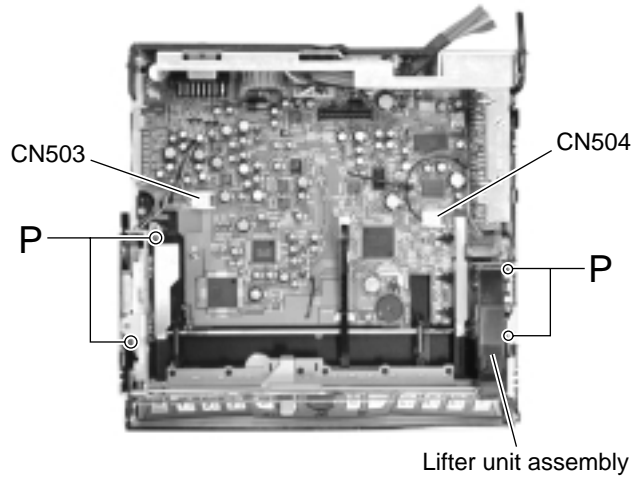

Fig.13
**■ Removing the lifter unit (See Fig.13)**